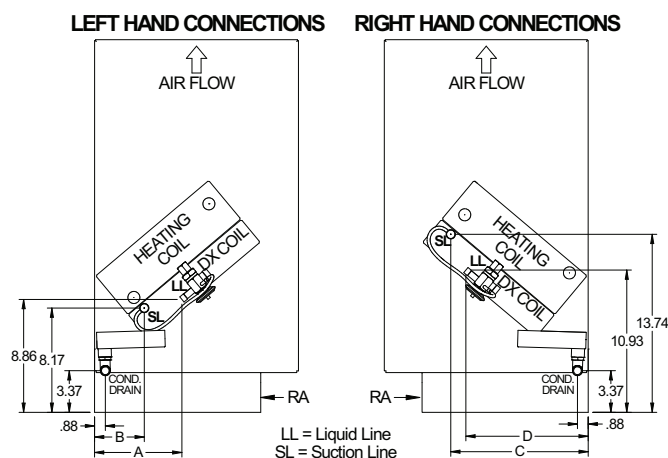

Fig. 18 — DX Cooling (Size 0750) With or Without Optional Reheat Coil (No Piping Package)
- a. For Chilled Water piping location see Fig. 10. For DX Cooling piping location see Fig. 18 and 20.